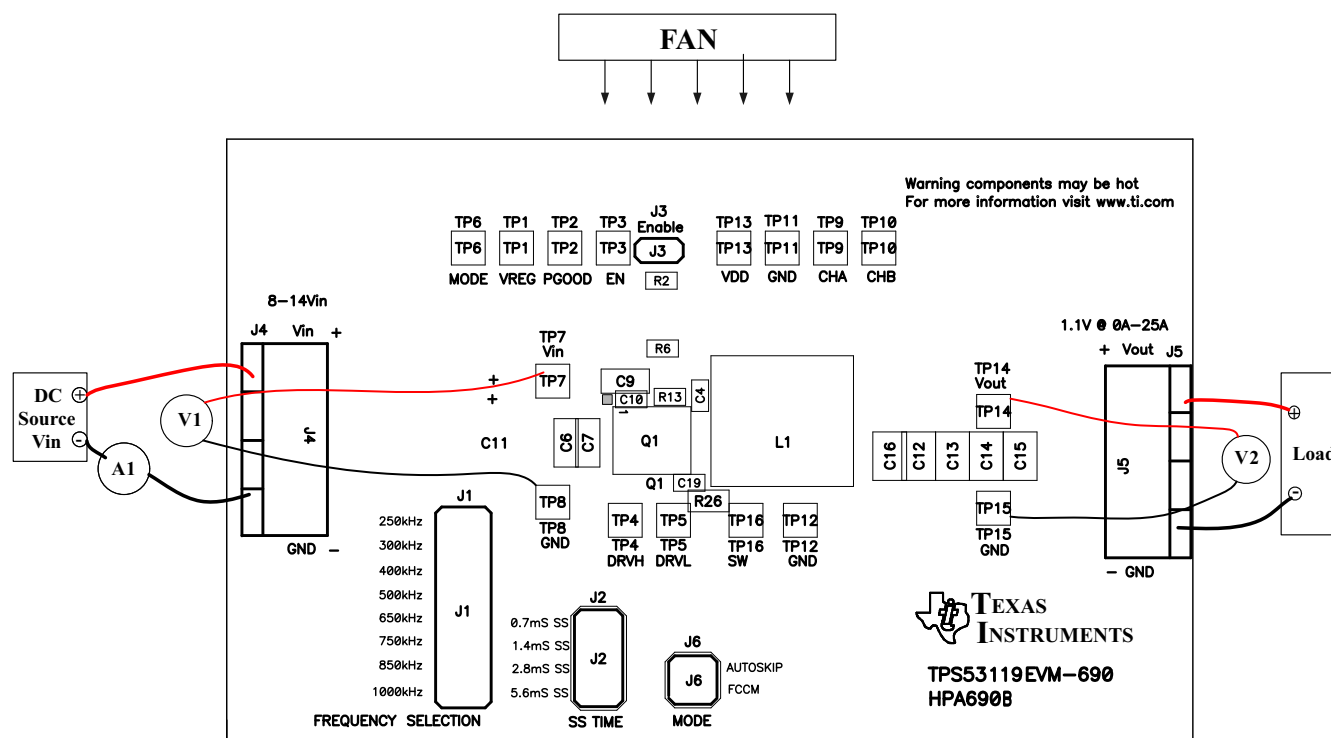

Figure 3. TPS53119EVM-690 Recommended Test Setup
Voltage Source: The input voltage source V_{IN} must be a 0-V to 14-V variable dc source capable of supplying 10 Adc. Connect V_{IN} to J4 as shown in Figure 3.
Figure 3 is the recommended test setup to evaluate the TPS53119EVM-690. Working at an ESD workstation, make sure that any wrist straps, bootstraps, or mats are connected referencing the user to earth ground before power is applied to the EVM.
1. Prior to connecting the dc input source V_{IN} , it is advisable to limit the source current from V_{IN} to 10 A maximum. Ensure that V_{IN} is initially set to 0 V and connected as shown in Figure 3.
Place a fan as shown in Figure 3 and turn it on, ensuring that air is flowing across the EVM.
1. Set up EVM as described in Section 5 and Figure 3.